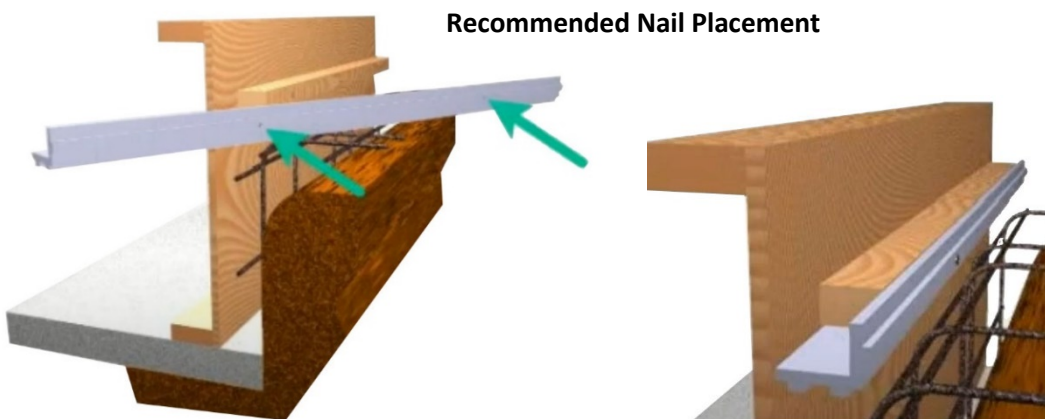

Figure 3
Step 2: Attach the fiberglass rail to the wooden nailer using small finish nails (drill holes in the rails to facilitate the process at 2' to 3' intervals). *Figure 3*